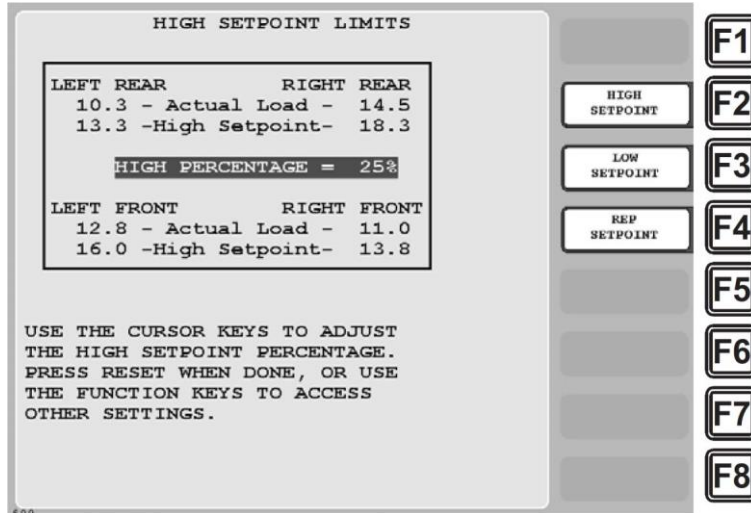

Figure 4-9. Adjust Setpoints Screen: High Setpoint Limits Display
1. On the Tonnage Monitor Programming Menu, press the F6 (Adjust Setpoints) function key. A screen like the one shown in Figure 4-9, page 100, displays with high setpoint information shown by default.
High setpoint values are displayed by default when you select the ADJUST SETPOINTS item (see Figure 4-9), or you can access them by pressing the F2 (High Setpoint) function key.